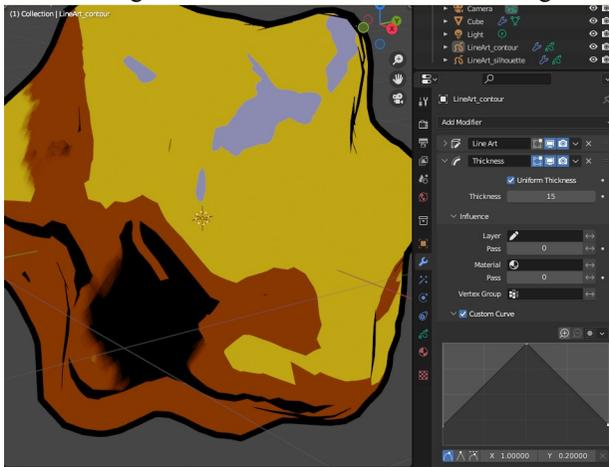

Figure 13-6 Line Art settings.
5. Add a new line art object using **Add ▸ Grease Pencil ▸ Object Line Art** as above, and rename it LineArt_contour. If you didn't first select the Cube object you will need to first change the Object value in the Modifier Properties tab to **Cube**. Add a second modifier with type Thickness, tick the Uniform Thickness check-box and reduce the Thickness to 15. Expand the Influence section, tick the Custom Curve check-box and create a profile that goes from small to big to small again. The settings and resultant lines can be seen in Figure 13-6